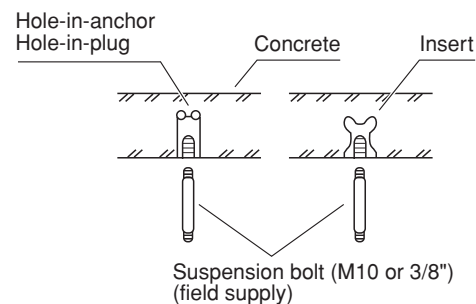

Fig. 3-4
- (3) Depending on the ceiling type:
- Insert suspension bolts as shown in Fig. 3-4. or